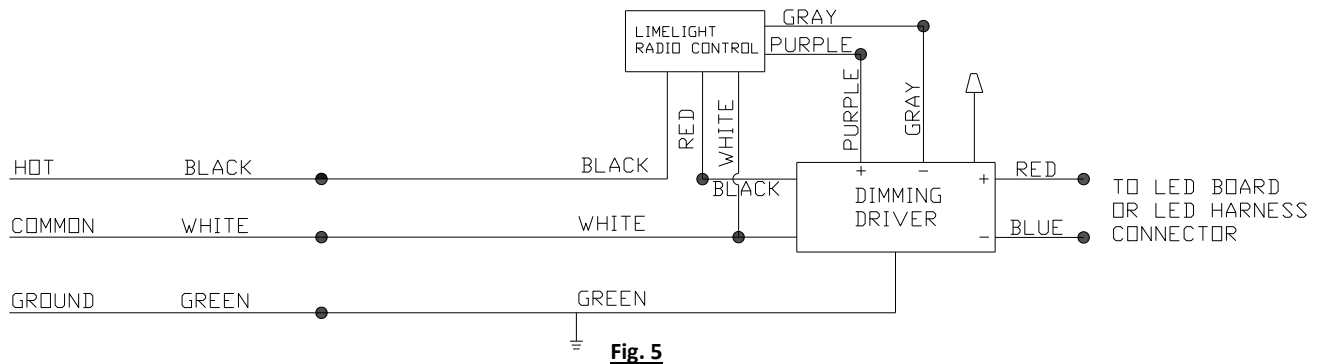

Fig. 5
5. Make wire connections as shown. The black, red, white, purple, and gray wires will connect to the 2 conductor Wago connectors. See Fig. 4 and Fig. 5.